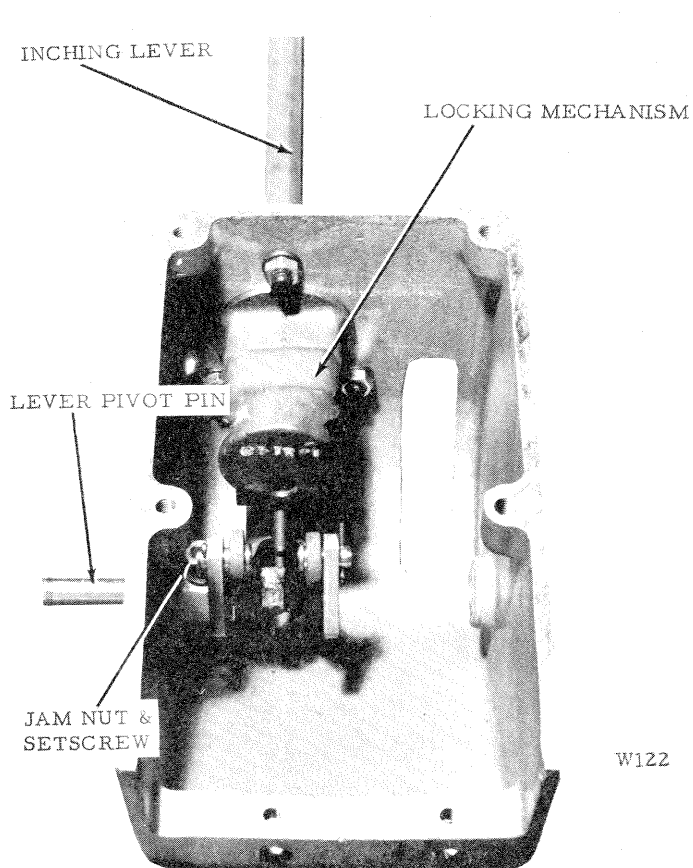

Figure 7
1. Remove the snap ring (13) from the selector lever end of the lever pivot pin (14). Loosen the jam nut and setscrew securing the pivot pin. Pull the pivot pin out of the console until the selector lever (5) and spacer (12) are free.
2. Screw the knob off the inching lever. Pull the pivot pin completely out of the console. Remove the inching lever. Screw the nuts off the bolts retaining the locking mechanism; then, push the mechanism out of the console. Fig. 7.